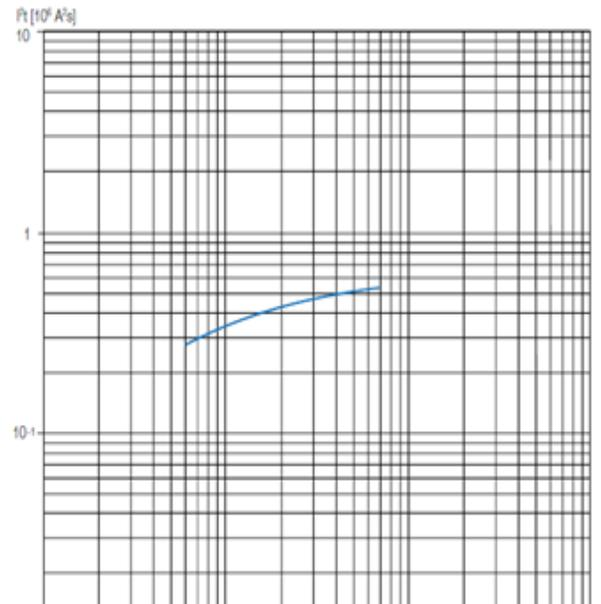
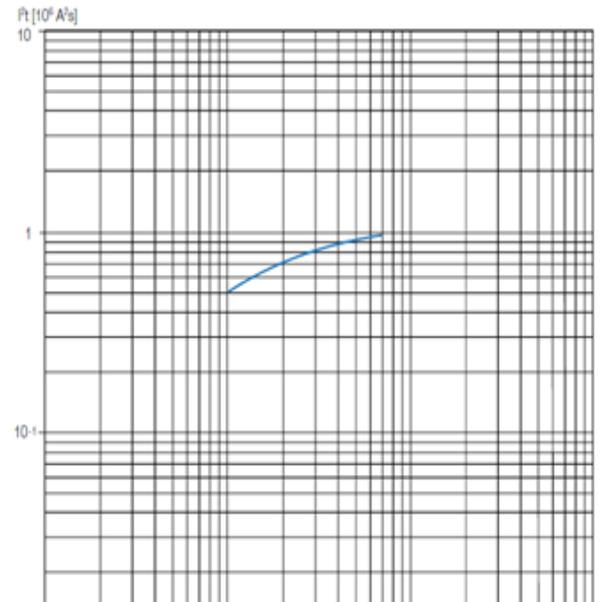

Figure 2 - XT2H 480V Specific Let-through Energy Curve
Figure 8 – XT4H 480V Specific Let-through Energy Curve
The Tmax XT3 circuit breaker is a standard or non-current-limiting circuit breaker with continuous current ratings ranging from 60 to 225 amps. Using the standard (S) interrupting rating of 35kA @ 480 volts, the specific let-through energy is  $2.42 \times 10^6$  A2s. Figure 2 shows the Tmax XT2H, applied at the same 35kA @ 480 V, has a specific let-through energy of approximately  $0.48 \times 10^6$  A2s, which is about one-fifth (20 percent) of the let-through energy of the Tmax XT3. For load requirements greater than 125 A, the Tmax XT4H (figure 8) protects up to 250 amps and has a let-through energy at 35kA - 480V of  $0.85 \times 10^6$  A2s. While this is considerably higher than the let-through energy of the Tmax XT2, it is still only about one-third (33 percent) of the let-through energy of the standard Tmax XT3 non-current limiting circuit breaker. This substantial reduction in energy greatly reduces the thermal and electrodynamic forces to which the system is subjected during a short-circuit event, providing more protection to the equipment, when needed.